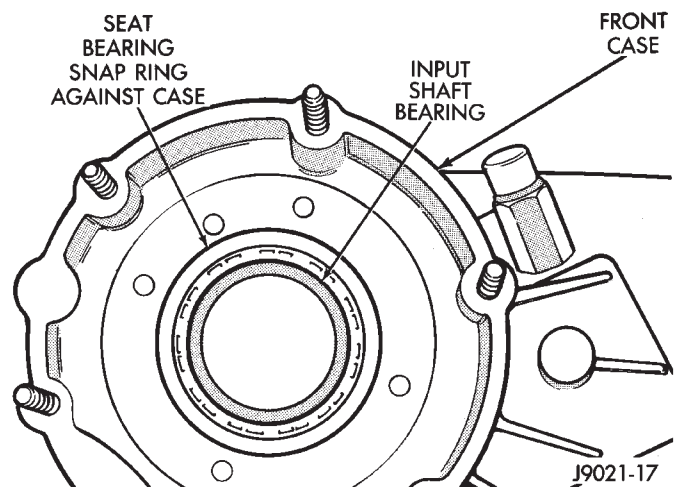

Fig. 32 Input Gear Bearing Installation
(8) Install snap ring on new input gear bearing and start bearing in case.
(9) Carefully press input gear bearing into case until bearing snap ring seats against case (Fig. 32).